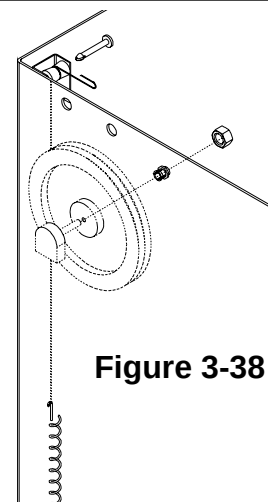

Figure 3-38
- Remove the 13mm nut holding the potentiometer to the frame (Figure 3-38)